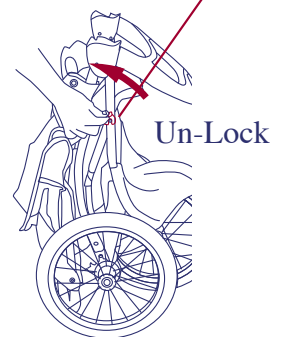

Figure 21.
- Stand the stroller on the ground with all three wheels touching the ground. Release the folding latch, which is located on the right side. See figure 21.